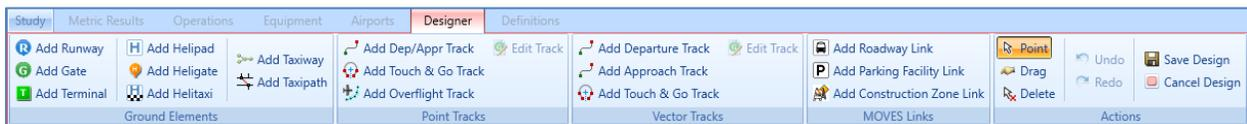

Figure 8-32 Airport Layout Designer Tab
4. The Airport Layout *Designer* tab is displayed (Figure 8-32), and a red border around the map indicates that the airport design mode is active.